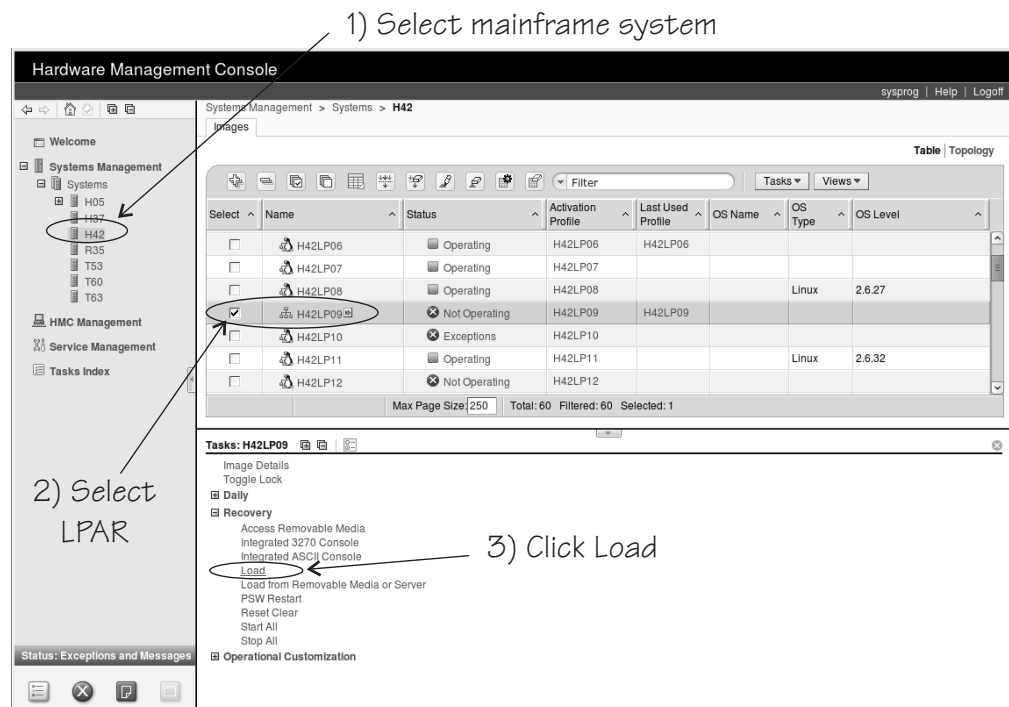

Figure 27. Load task on the HMC
3. In the **Tasks** area, expand **Recovery** and click **Load** (see Figure 27).